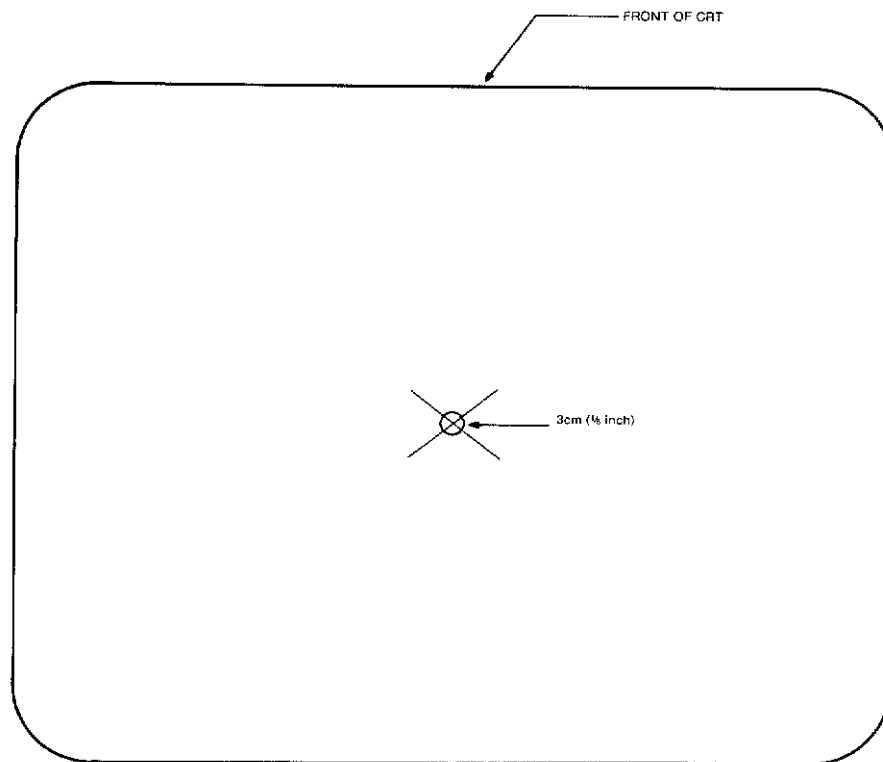

Figure 4-5. Yoke Centering Adjustment.
8. While holding flexible straight edge from front lower-left corner to front upper-right corner of CRT, make a mark about one inch long with a water soluble felt pen across center of CRT (figure 4-5).
9. Repeat above step for upper-left corner and lower-right corner, forming an "X" in center of CRT (figure 4-5).